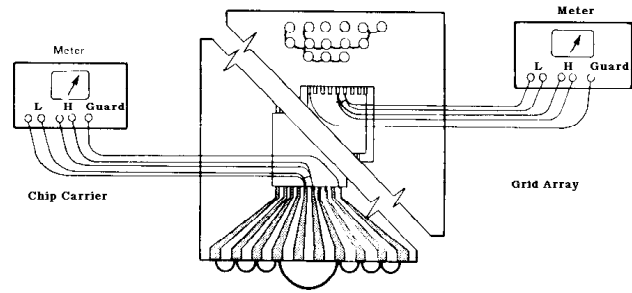

Figure 2 Loading Capacitance
4 Procedure: Loading Capacitance (See Figure 2)
4.1 Omit guard terminal. Connect together all the pins in close proximity to the one to be measured. Example: Eight surrounding pins are connected together for the 68 pin grid; twelve surrounding pins are connected together for the 124 pin grid; eight surrounding pins are connected together for all flat packs (see Figure 2). If there are power planes and/or large power buses in the package, their pins must be connected together with the eight or 12 surrounding pins discussed above.